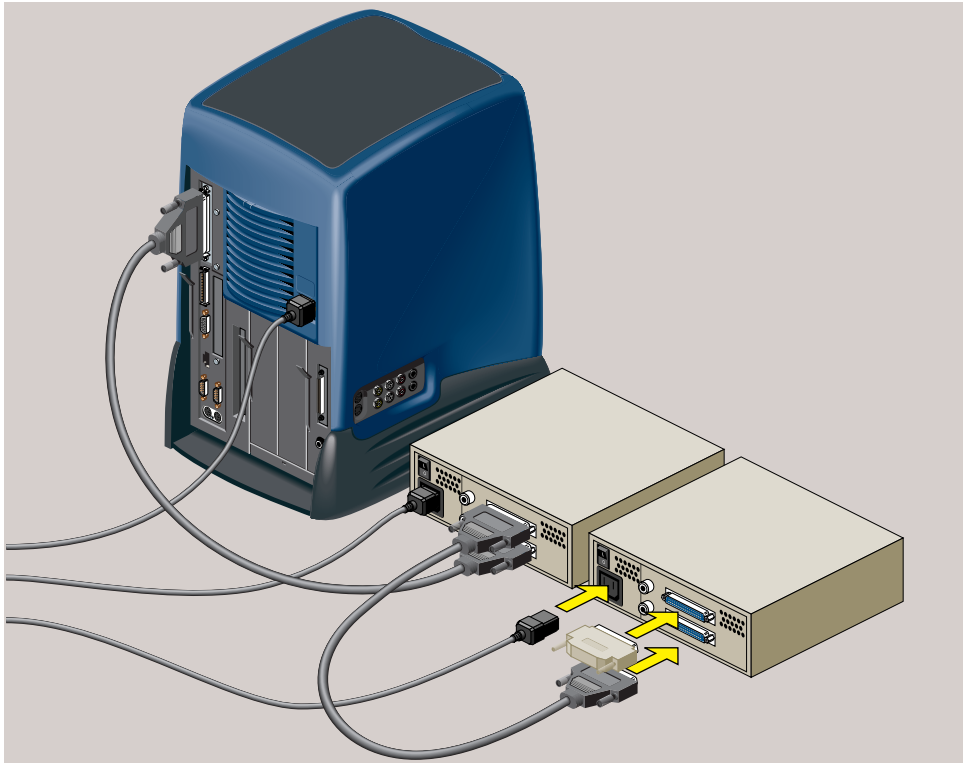

Figure 3-21 Connecting More than One Device in a Daisy Chain
4. Link the devices in a daisychain (Figure 3-21).